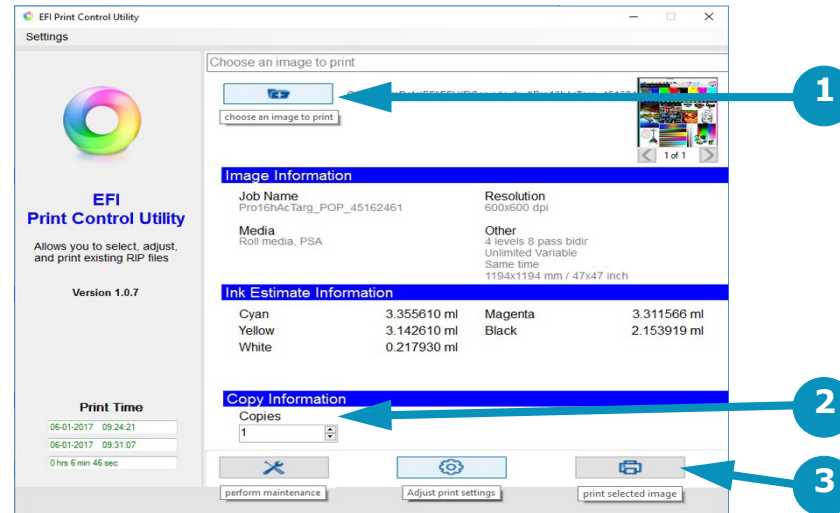

Figure 6-13: Print File from EFI Print Control Utility
2. Click the "+" (plus) folder button to load the file to print. (See Figure 6-13.)
4. Enter the number of copies. (See Figure 6-13.)
5. Click "Printer" button to print. (See Figure 6-13.)